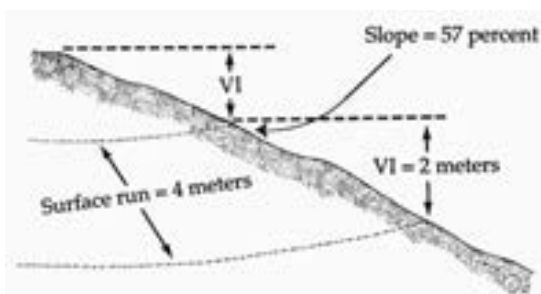

Figure 23. The surface run between hedgerows planted on a 57 percent slope with a vertical interval of 2 meters is about 4 meters.
For the system to provide maximum protection against erosion, the hedgerows should be spaced apart at the proper vertical interval (VI). The VI is the vertical distance from one hedgerow to the next one down the slope. The actual distance measured along the ground, called the surface run, depends on the steepness of the slope. With a vertical interval of 2 meters, for example, the hedges on a 5 percent slope would be about 40 meters apart, whereas those on a 2 percent slope would be about 100 meters apart. As shown in Figure 23, the surface run between hedgerows planted on a 57 percent slope with a VI of 2 meters is about 4 meters. For a more comprehensive look at the relationships among slope, surface run, and vertical interval, see Table 1 at the end of this handbook. In practice, a VI of 2 meters has generally been found to be adequate.